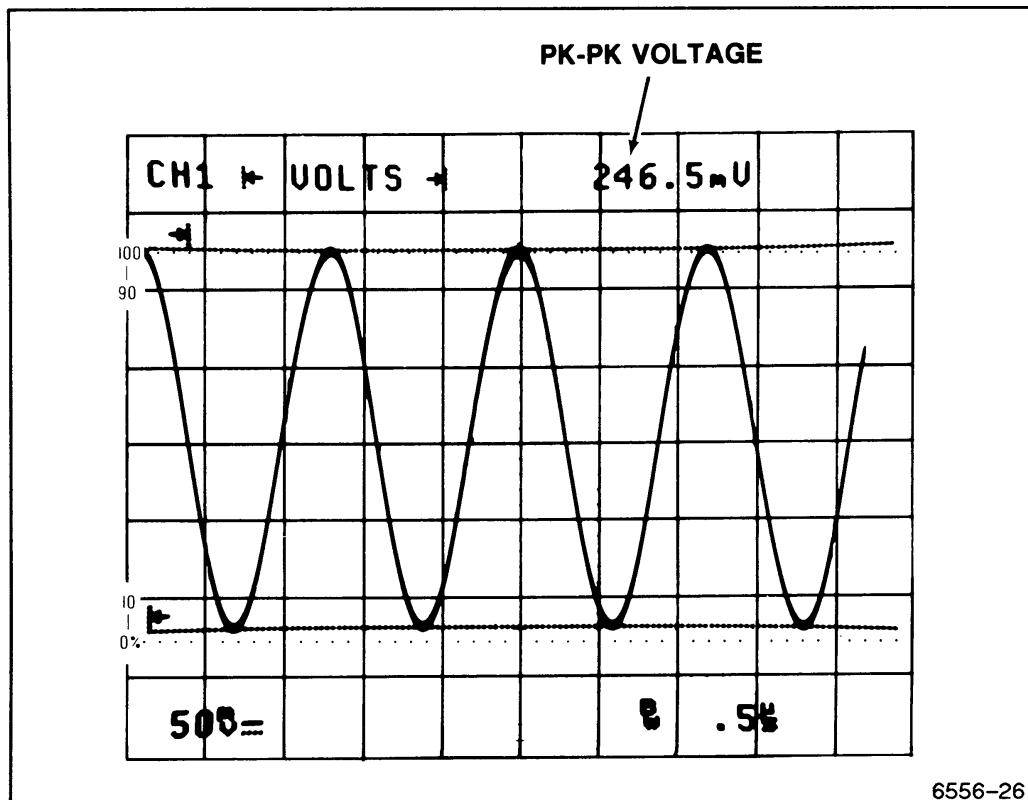

Figure 5-3. Voltage difference measurement using cursors.
4. Press the CURSOR VOLTS button to display the measurement selection menu and select the ← VOLTS → cursors. The voltage cursors are initialized to the peak-to-peak levels of the lowest numbered displayed channel of either CH 1 or CH 2 (see Figure 5-3).